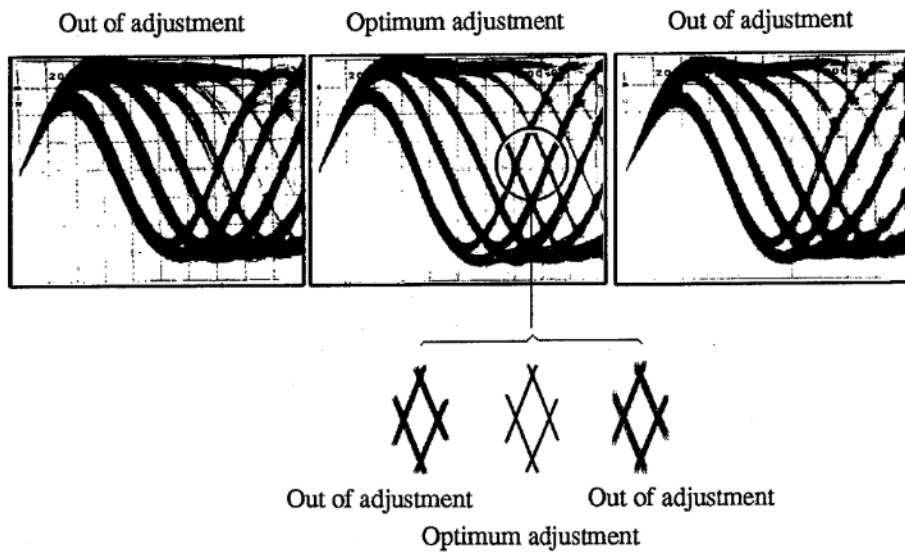

Figure 5 Eye pattern
- Next, adjust the tangential tilt adjustment screw with an M 3-mm hexagonal wrench so that the eye pattern (the diamond shape at the center of the RF signal) can be seen the most clearly (Figure 5). For Multi-play CD type, use a Phillips screwdriver.